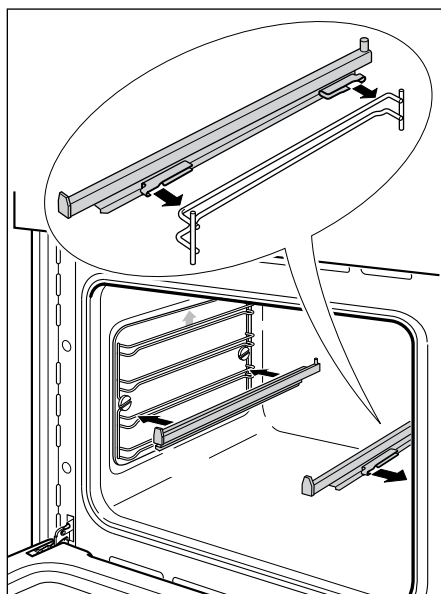

Fig.20 Refitting the sliding shelf supports
- 2 Fit the sliding shelf support onto the top wire of a rack and press (Fig. 20). You will hear a click as the safety locks clip over the wire.
- *the slides so that they run out towards the oven door, as shown in Fig. 20.*